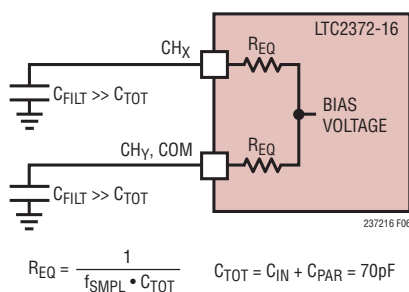

Figure 6. Equivalent Circuit for the MUX Analog Inputs of the LTC2372-16 at 500ksps
**Fully Averaged:** Consider the case where MUXOUT+/- is directly wired to ADCIN+/-. If the coupling filter's capacitors ( $C_{FILT}$ ) at the MUX analog inputs are much larger than the sum of the ADC's sample capacitors (50pF) and the MUX's output summing node capacitances (20pF), then the sampling glitch is greatly attenuated. The driving amplifier effectively only sees the average sampling current, which is quite small. At 500ksps, the equivalent input resistance is approximately 28k (as shown in Figure 6), a benign resistive load for most precision amplifiers. However, resistive voltage division will occur between the coupling filter's DC resistance and MUX's equivalent (switched-capacitor) input resistance, thus producing a gain error.